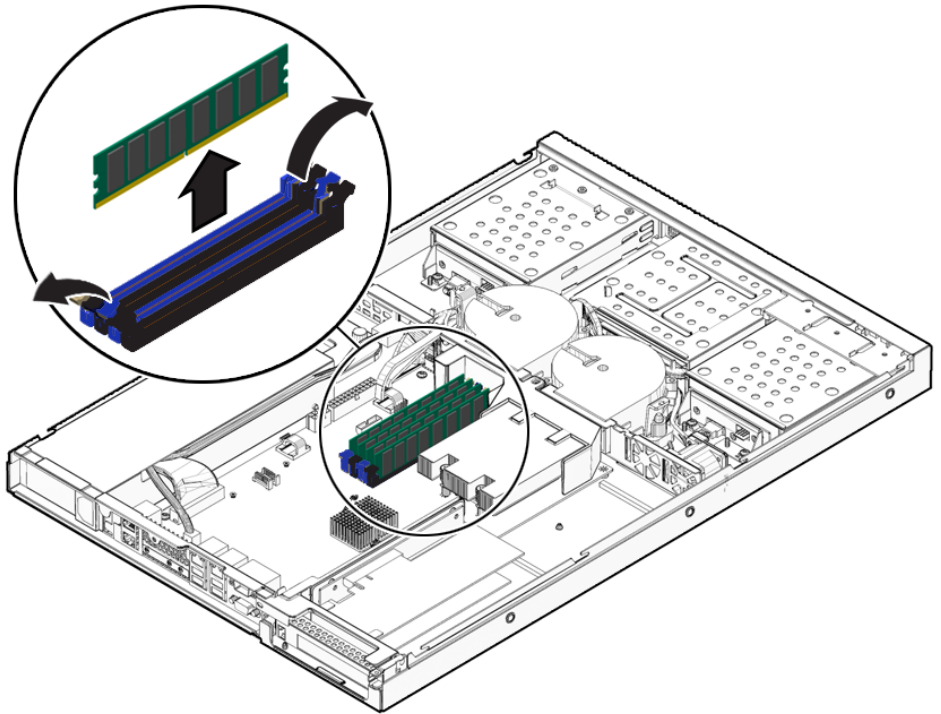

FIGURE 4-28 Removing a DIMM
3. Remove a DIMM by pressing down on the ejector bars at both ends of the memory module's socket (see FIGURE 4-28).